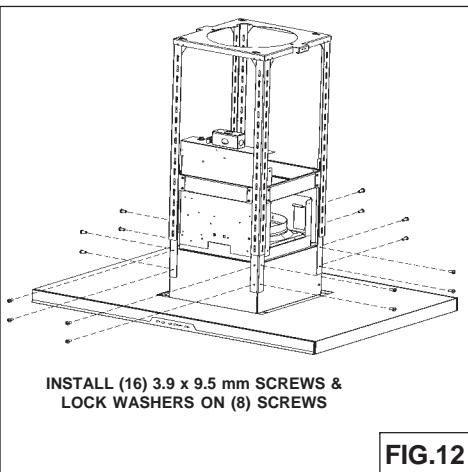

FIG.12
5. Adjust the overall height of the support frame. Loosen and re-tighten the 4 screws in the **height adjustment slots** as necessary. Insert 16 screws (3.9x9.5mm), and 8 lock washers (D.4.3) located in the Hardware Package (Fig. 12).